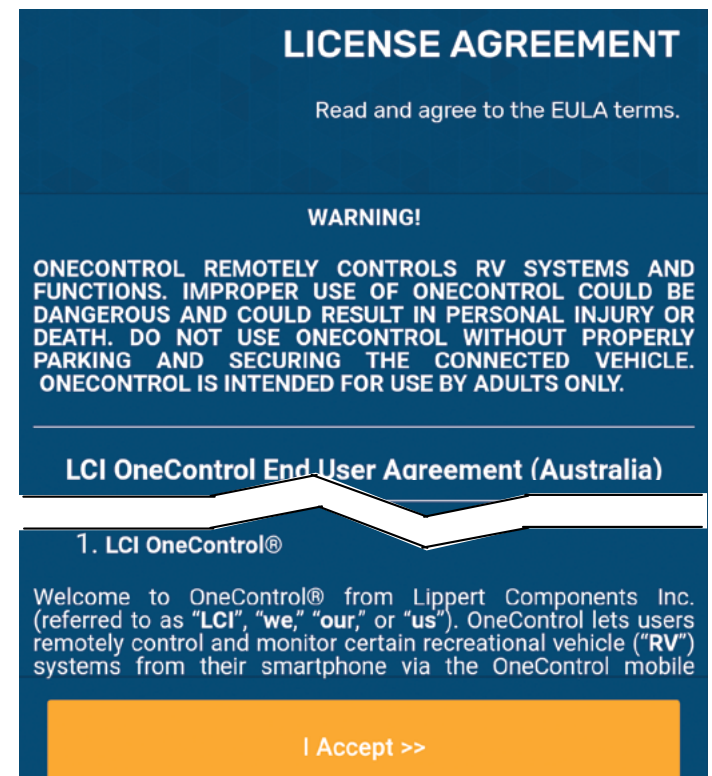

Fig.4
3. Read and accept the License Agreement (Fig.4). Tap I Accept button to continue.